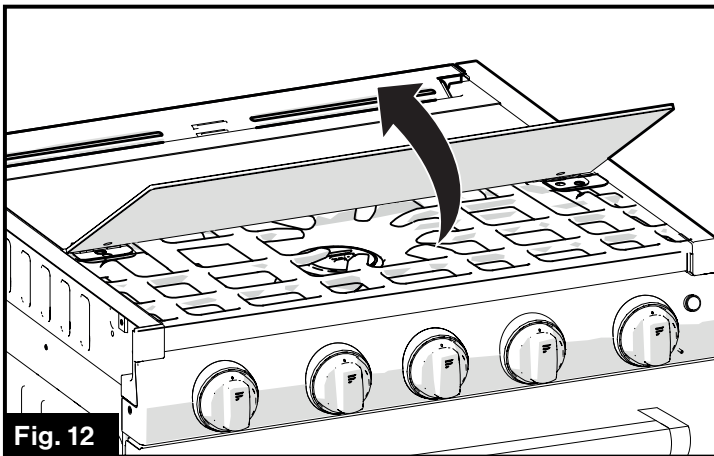

Fig. 12
1. Lift at the front to open the cooktop glass cover and fold back until the glass is not covering any of the cooking surface. The top glass cover must be kept open when lighting and using the cooktop. (Fig. 12)